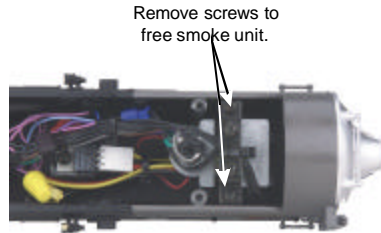

Figure 14
1. To replace the headlight in this model you will need to follow the disassembly instructions for smoke unit maintenance in figure 14 on pg. 19. Once the smoke unit is removed you can access the wires for the headlight (see figure 8).
2. Remove the three screws securing the some unit inside the shell as seen in Fig. 14.
3. With the board free of the mounting screws, slide the assembly toward the center of the boiler as seen in Fig. 14.